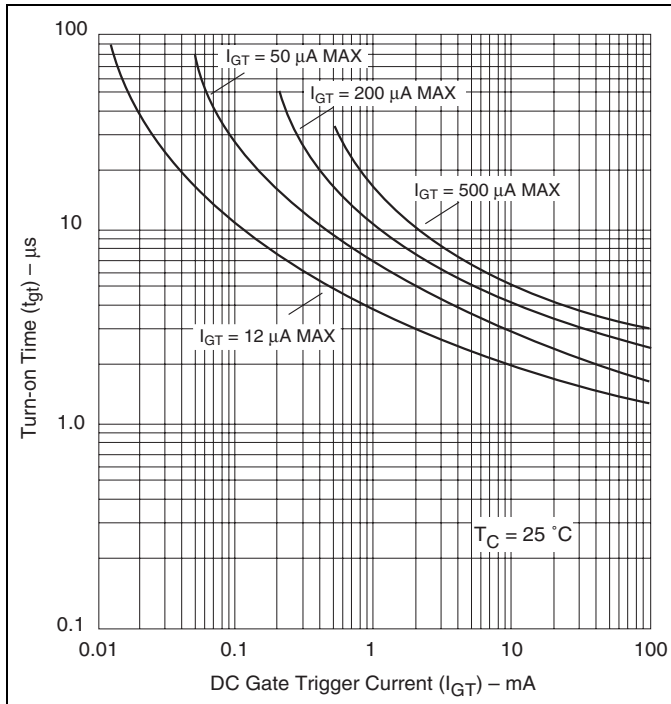
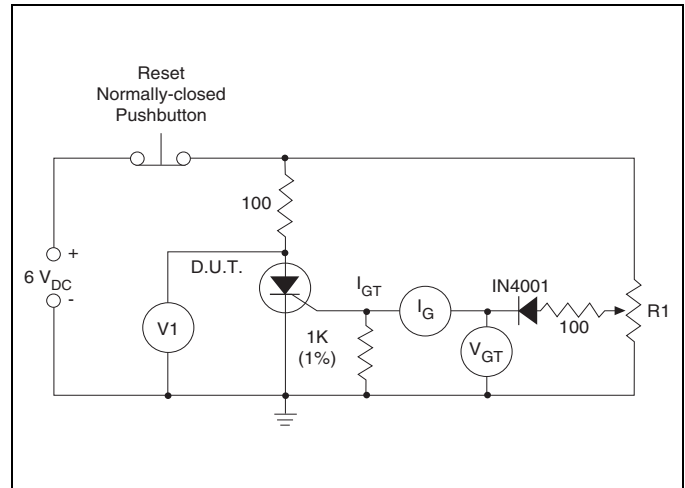

Figure E5.15 Typical Turn-on Time versus Gate Trigger Current
Figure E5.19 Simple Test Circuit for Gate Trigger Voltage and Current Measurement
- (8) See Figure E5.15 for tgt versus IGT.
- (9) Test conditions as follows:
- (10) Test condition is maximum rated RMS current except TO-92 devices are 1.2 APK; T106/T107 devices are 4 APK.
- (11) VD = 6 V DC, RL = 100 Ω. See Figure E5.19 for simple test circuit for measuring gate trigger voltage and gate trigger current.